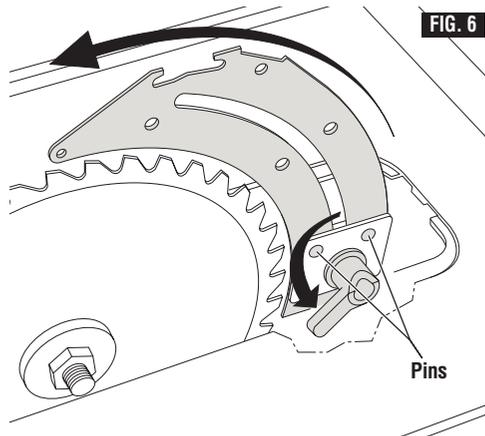

FIG. 6
5. Slide the riving knife up to its highest position, so that it is directly over the center of the blade (Fig. 6).
6. Align holes in riving knife with pins and lock the release lever by rotating it counterclockwise. Push/pull riving knife to verify that it is locked in place (Fig. 6).